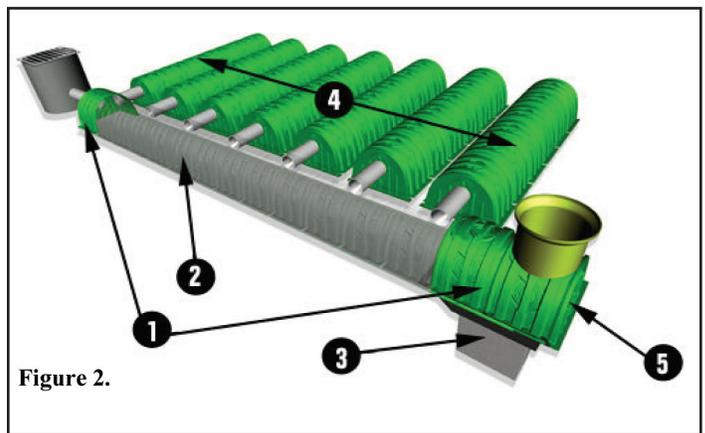

Figure 2.
The Main Header Row is comprised of a row of any Triton chambers that sit upon the interconnecting sediment floors that are connected to a closely located manhole for easy access. At the end of the Main Header Row there can be an optional Sump Basin Assembly (Shown as item 3 in figure 2) to help collect and contain any sediment that will be flushed out of the Main Header Row during a rain event or during a maintenance cleaning. The sump basin assembly can then be accessed from above via a manhole or up to a 33" diameter stand pipe. The Main Header Row feeds the distribution rows (shown as item 4 in figure 2) via a feed or distribution pipe. The Feed pipe is at an elevated invert height so the water in the Main Header Row has to rise to this invert height before flowing into the distribution rows thus capturing the sediments in the Main Header Row. The Main Header Row is then protecting the distribution chamber row storage areas of any sediment accumulation. This allows for preserving the